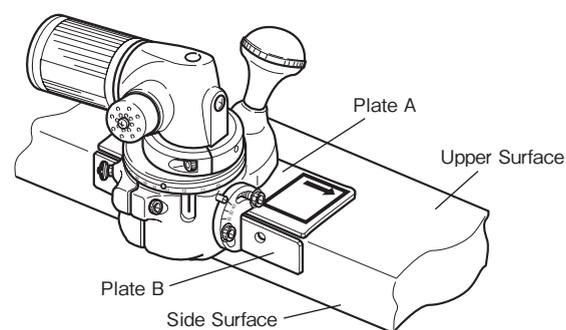

Fig. 14
- ① Place the tool on workpiece with Plate A on upper surface of workpiece and Plate B on side surface, as indicated in Fig.14. Then, turn the Eccentric Ring to adjust the Indexable Inserts to cut properly side surface, and conduct the first cut (see Fig.15).
- ② Next, placing Plate A on side surface and Plate B on upper surface, conduct the second cut.